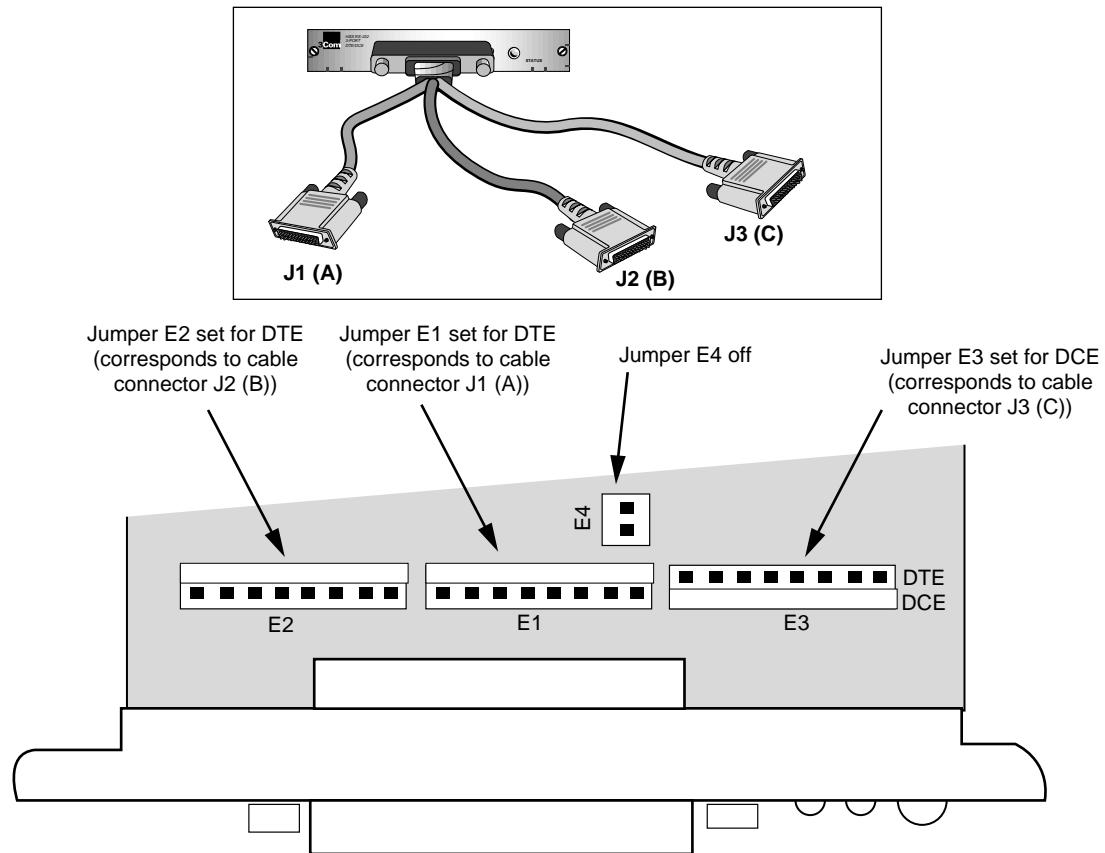

Figure 1-1 Changing the Jumper Settings to Connect to DTE Devices
- 1 Remove the jumper located in the E-4 position (see Figure 1-1).
- 2 For the ports you want to connect to DTE devices, move the jumpers from the DTE row of pins to the DCE row of pins (see Figure 1-1).
CAUTION: When changing jumper settings on the module and when cabling the module to devices, be aware that when the RS-232 3-Port cable is connected to the module, the positioning of the three hydra cables carrying the port signals are not visually in a direct or expected line with the location of the jumpers on the module to which the signals correspond. (See Figure 1-1.)
Figure 1-1 shows the jumper in the E3 slot for port J3(C) set to DCE and shows two ports set to DTE.